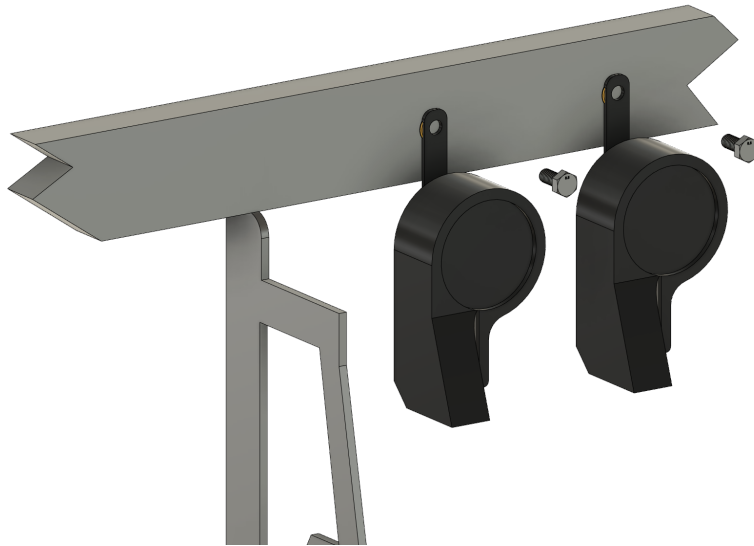

Figure 1
- *Use the following hardware to attach each of the short slot brackets (4042) to the vehicle using the two (2) holes left over from relocating the horn components.*
- *Apply thread locking compound and attach as shown into the factory threaded holes left over from Figure 1.*